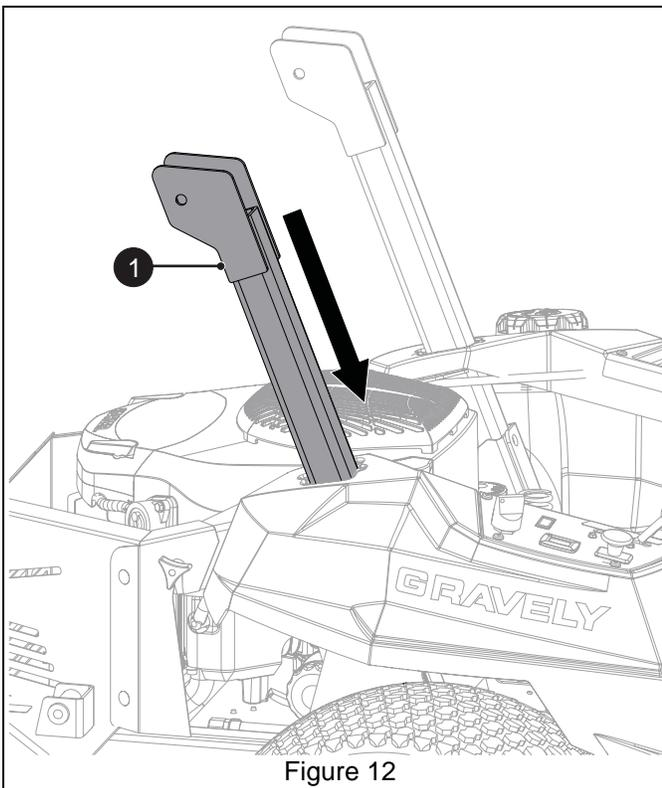

Figure 12
- Insert bagger support (item 1) through the opening and between right support bracket and frame. Ensure that hinge plates are positioned facing the rear. See Figure 12.